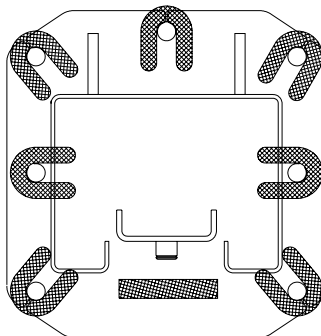

Figure 5
6. **IMPORTANT:** Using the horseshoe shims provided, shim each column base until each column is plumb. If one column has to be elevated to match the plane of the other column, full size base shim plates should be used. Recheck columns for plumb. Tighten anchor bolts to an installation torque of 150 ft.-lbs. Shim thickness **MUST NOT** exceed ½" when using the 5 ½" long anchors provided with lift. Plumb the column uprights. **See Figure 5.**